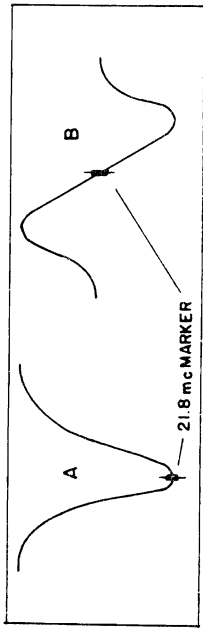

Fig. 10. Audio I-F Curves
1. Sound I-F Alignment—The sweep generator is connected through a 500 mmf. capacitor to the grid of the tube preceding the sound i-f coil to be aligned. Connect the oscilloscope through a 100,000-ohm resistor across the resistor, R104, in the limiter tube, V18 grid. Insert a 21.8 mc marker signal from an unmodulated signal generator into the grid of V3. Keep the marker signal attenuated so that it just shows a marker on the sweep. Adjust L21 and L5, respectively, as you advance progressively one stage at a time, for maximum gain and symmetry of the response curve about the 21.8 mc marker. The curve should be similar to that shown in Figure 10(A). With input at the 1st audio i-f, V22, the bandwidth should be approximately 500 kc at the 70% response point.
For discriminator alignment, the secondary core of the discriminator transformer, T19, is aligned by using a tone modulated 21.8 mc amplitude modulated signal and listening to the tone at the loudspeaker. This adjustment is made for a minimum tone signal output. Apply the signal generator input to the grid of V22. If the sweep is used for the secondary alignment, the crossover should be symmetrical about a 21.8 mc marker and should be a straight line between the alternate peaks as shown in Figure 10(B). For the discriminator transformer primary alignment, connect the oscilloscope to the junction of C74 and R86. With the same sweep input as in Step 1, adjust the primary adjustment screw for a maximum peak-to-peak amplitude of the response curve as shown in Figure 10(B).